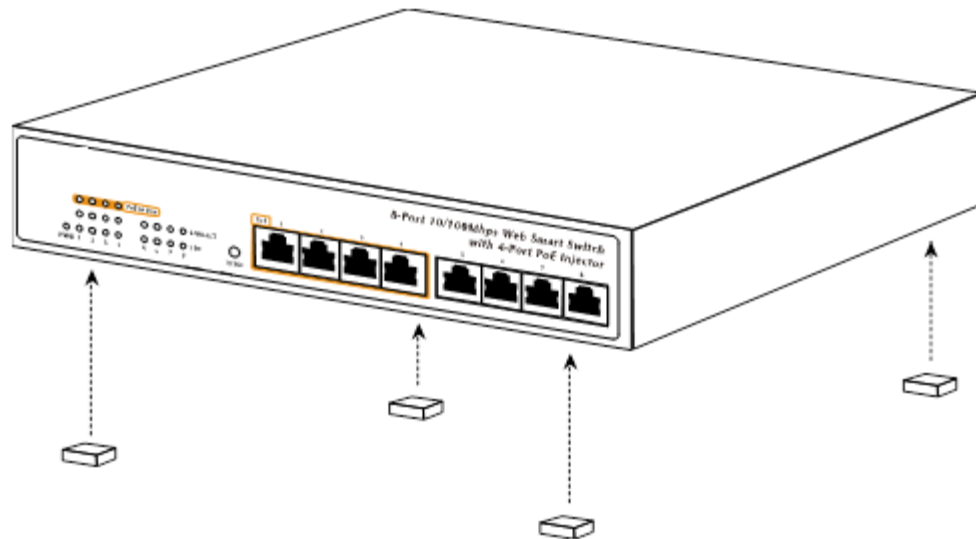

Figure 2-3 Attaching the rubber feet to the Fast Ethernet Switch
Step 1: Attach the rubber feet to the recessed areas on the bottom of the Switch, as shown in Figure 2-3.